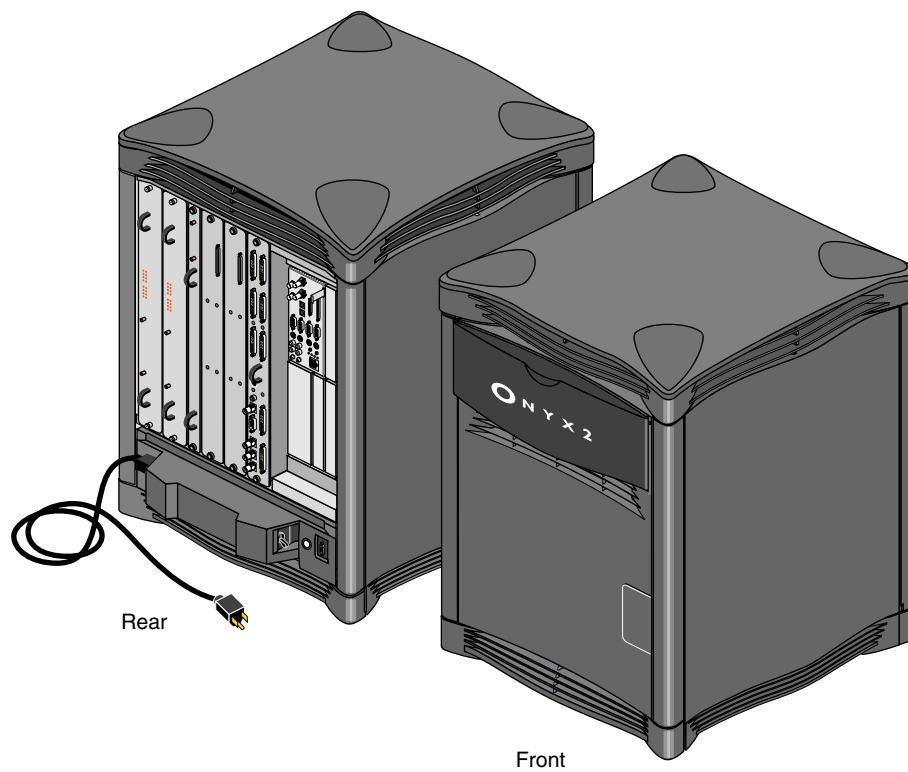

Figure 1-1 Onyx2 Deskside Workstation
The Onyx2 deskside workstation (shown in Figure 1-1) comes with one or two combined CPU and memory boards called "Node boards." Each Node board uses one or two 64-bit CPU microprocessors. The entry-level Onyx2 deskside system uses one 64-bit microprocessor. The system can use up to four when fully configured.
- One graphics board set (pipe). The board set can be either the Onyx2Reality, or the high performance InfiniteReality or InfiniteReality2, (see Figure 1-1).